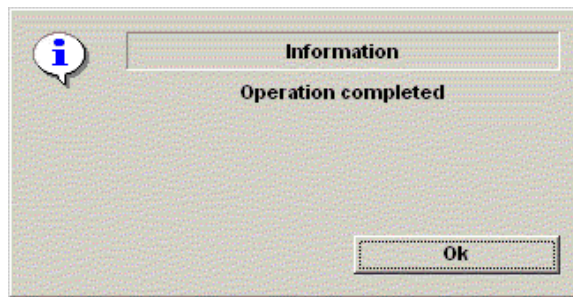

Figure 4-32 Format Successful Pop-up Menu
- 5.) The Ultrasound system displays a pop-up menu, as shown in Figure 4-32. When the formatting has been completed, press OK to continue.